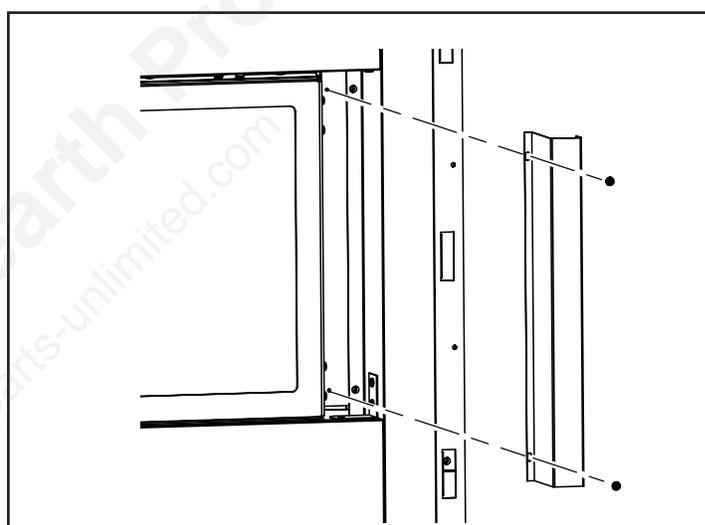

Figure 39 - Installing Side Face Filler for See-Thru Applications
1. Screw side face filler into firebox side baffle using 2 screws on both the left and right side as shown in Figure 39.